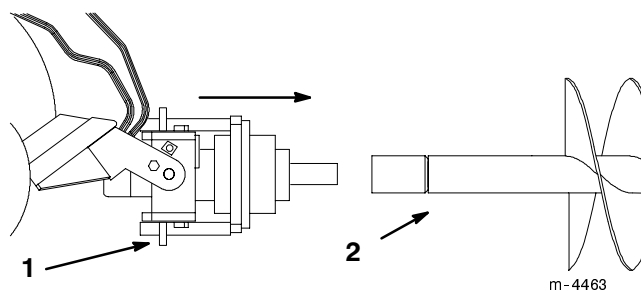

**Figure 4**
7. If using an extension with the auger, insert the end of the extension into the end of the auger and secure the auger to the drive head with the 7/8"-9 x 4-1/2" bolt and 7/8"-11 nut (Fig. 4).